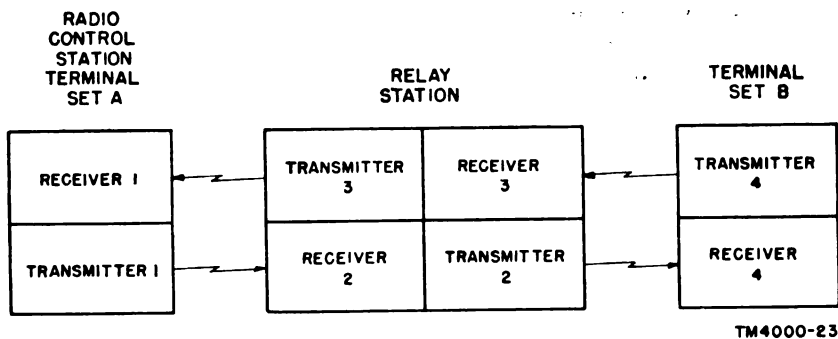
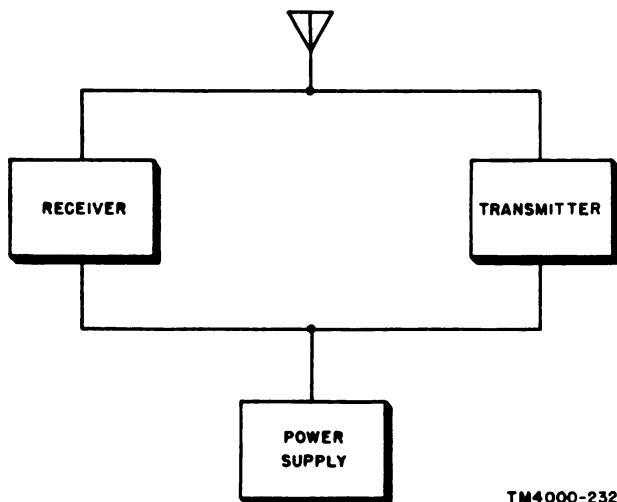

Figure 48. Radio-relay system, block diagram.
Figure 49. Radio set, block diagram.
- (1) If receiver 4 (fig. 48) is not producing a signal at its output, receiver 4 operator requests the operator at transmitter 4 to use the order line to ask receiver operator 3 to alert transmitter 2 operator. Transmitter 2 operator will check his transmitter by observing the meter indications. If the transmitter is normal, receiver 4 is probably defective.
- (2) At the same time, the technician at receiver 4 begins to troubleshoot the receiver, by following the procedure in *b* below. He can also make some simple tests. For example, if the receiver is completely dead, the receiver is at fault. If there is a noise at the receiver output when the gain control is advanced to maximum, the defect is in the RF, mixer, local oscillator, or antenna system.
- (3) In this way, by using the order line for communicating between terminal sets and the relay station, the trouble can be sectionalized to a component in any part of the system.
b. Sectionalization in a Radio Set. Many radio sets have a common antenna and a common power supply (fig. 49).
- (1) If the transmitter *and* receiver do not produce any output, the power supply is probably at fault.